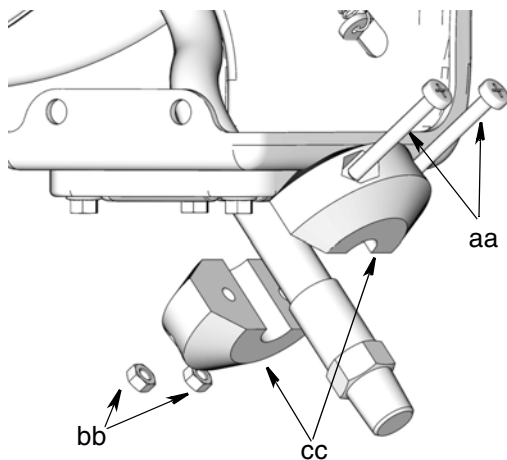

FIG. 20
4. Remove hose stop from hose end and put all the parts in a safe place to reinstall on the new hose later (FIG. 20).